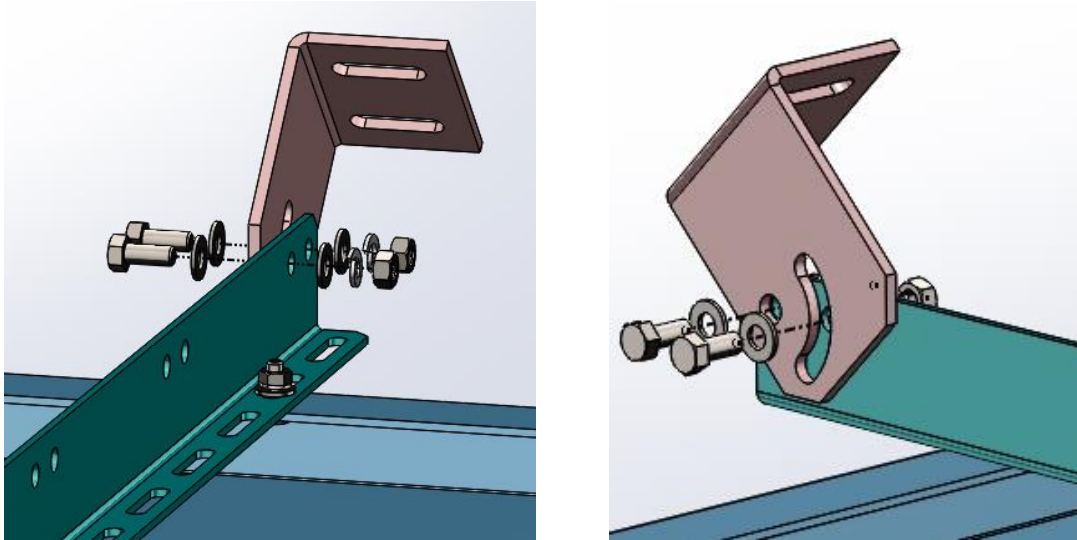

Figure 6. Exploded view of left clip attached to the left mounting rail
- Attach the clips to the rails. In each of the mounting holes, use a 5/16 - 18 x 3/4" bolt and flat washer on one side and a flat washer, lock washer and nut on the other as shown in **Figures 6 and 7**.